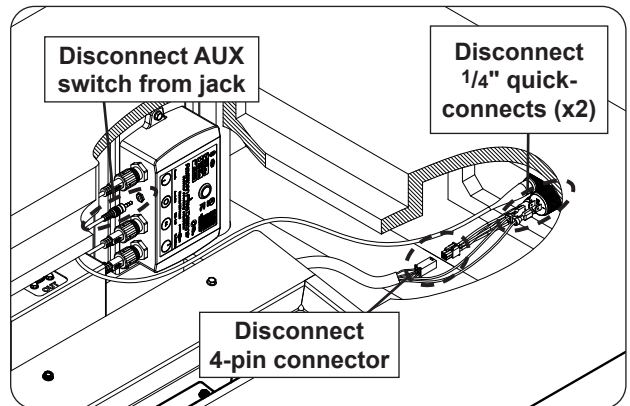

Fig. 33-3 Disconnect AUX switch, connector, and two quick connects
3. Disconnect the AUX switch, 4-pin connector, and two $\frac{1}{4}$ " quick-connects (see Fig. 33-3).